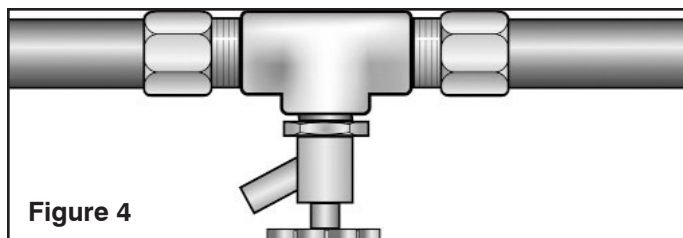

Figure 4
1. To fill the furnace with water from the inside of the building being heated, install a plumbing "T" in the return or supply line complete with a check valve and boiler drain, see Figure 4.